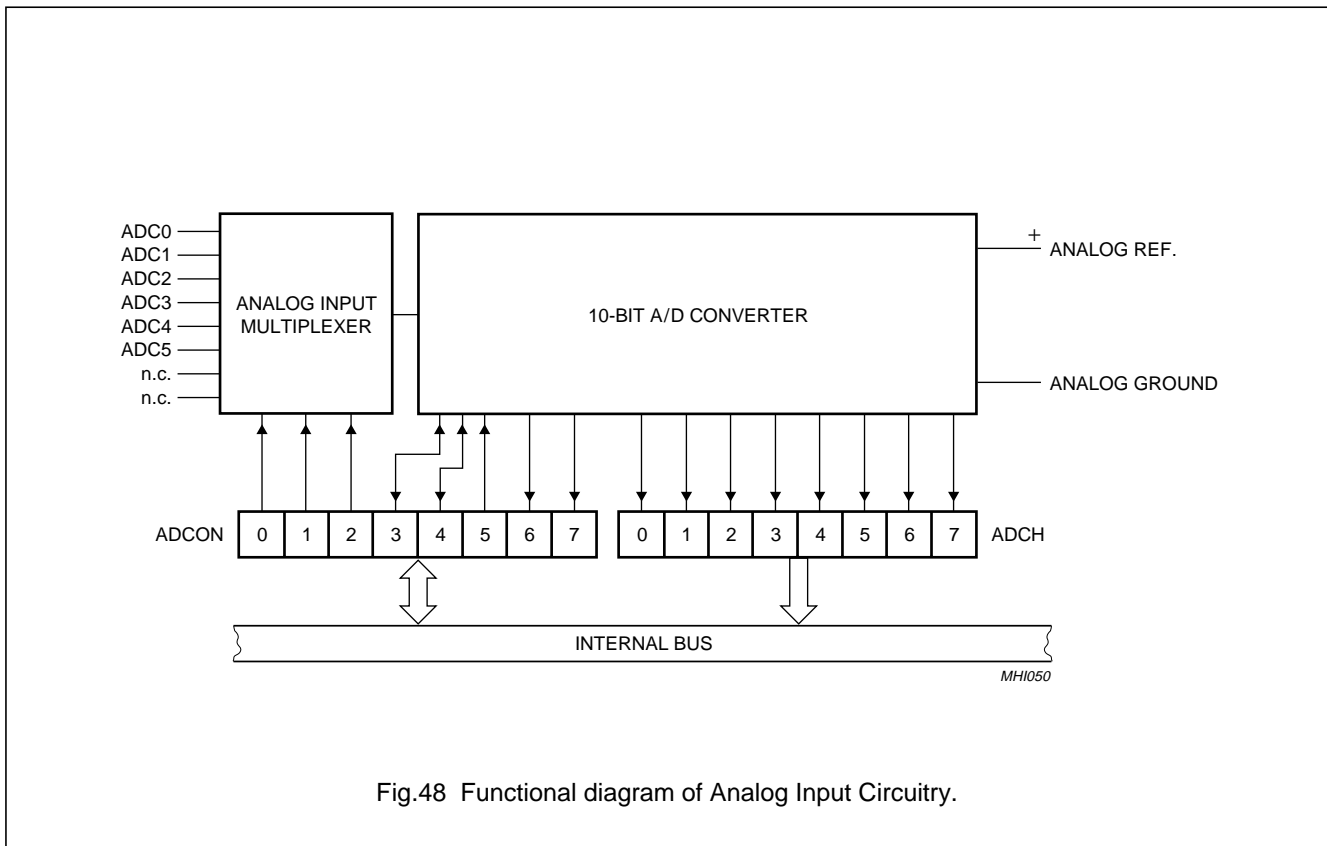

Fig.48 Functional diagram of Analog Input Circuitry.
The analog input circuitry consists of a 6-input analog multiplexer and a 10-bit, straight binary, successive approximation ADC. The A/D can also be operated in 8-bit mode with faster conversion times by setting bit ADC8 (AUXR1.7). The 8-bit result will be contained in the ADCH register. The analog reference voltage and analog power supplies are connected via separate input pins. For 10-bit accuracy, the conversion takes 50 machine cycles, i.e., 25 μ s at an oscillator frequency of 12 MHz. For the 8-bit mode, the conversion takes 24 machine cycles. Input voltage swing is from 0 V to +5 V. Because the internal DAC employs a ratiometric potentiometer, there are no discontinuities in the converter characteristic. Figure 48 shows a functional diagram of the analog input circuitry.
Figure 48 shows the elements of a successive approximation (SA) ADC. The ADC contains a DAC which converts of a successive approximation register to a voltage (VDAC) which is compared to the analog input voltage (V_{IN}). The output of the comparator is fed to the successive approximation control logic which controls the successive approximation register. A conversion is initiated by setting ADCS in ADCON register. ADCS can be set by software only.
otherwise the bit being tested is cleared. This process is repeated until all ten bits have been tested, at which stage the result of the conversion is held in the successive approximation register. Figure 48 shows a conversion flow chart. The bit pointer identifies the bit under test. The conversion takes four machine cycles per bit.
Figure 48 shows how the ADC is realized. The ADC has its own analog ground (AV_{SS}) and a positive analog reference pin (V_{ref+}) connected to each end of the DAC's resistance-ladder. The ladder has 1023 equally spaced taps, separated by a resistance of "R". The first tap is located 0.5 x R above AV_{SS}, and the last tap is located 1.5 x R below V_{ref+}. This gives a total ladder resistance of 1024 x R. This structure ensures that the DAC is monotonic and results in a symmetrical quantization error is shown in Figure 48.